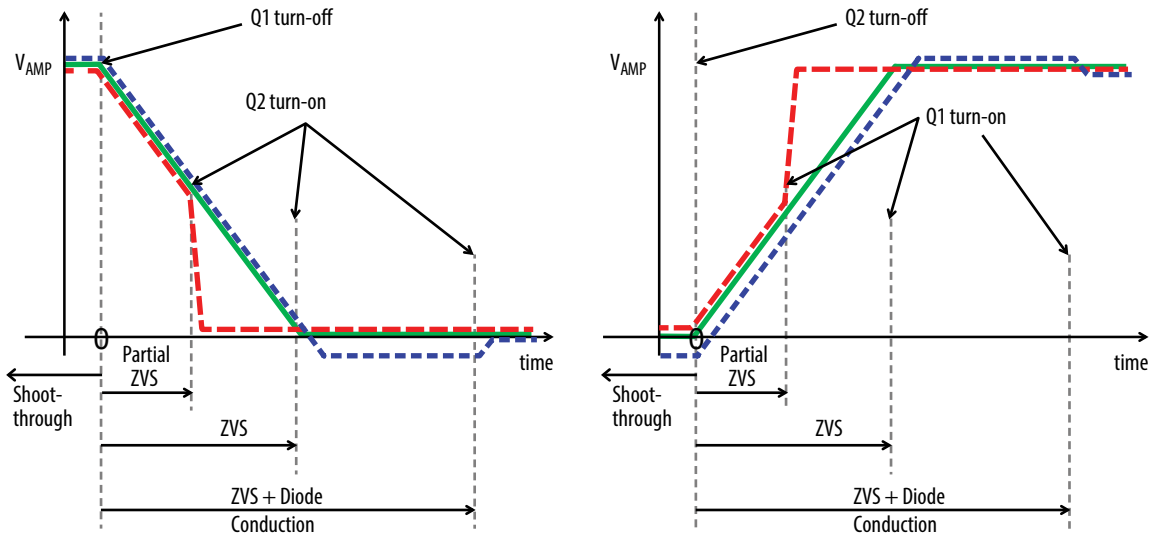

Figure 4: ZVS timing diagrams
Setting the correct time to establish ZVS transitions is critical to achieving high efficiency with the EPC9065 amplifier. This can be done by selecting the values for R71, R72, R73, and R74 respectively. This procedure is best performed using a potentiometer installed at the appropriate locations (P71, P72, P73, and P74) that is used to determine the fixed resistor values. The timing MUST initially be set without a load connected to the amplifier. The timing diagrams are given in figure 4 and should be referenced when following this procedure. Only perform these steps if changes have been made to the board as it is shipped preset. The steps are:
4. Turn on the main supply voltage to 5 V to ensure that the switch node waveform looks similar to figure 4. If not, adjust the potentiometers. After verification, the main supply voltage can be set to the required predominant operating value (such as 24 V but NEVER exceed the absolute maximum voltage of 80 V).
5. While observing the oscilloscope, adjust the applicable potentiometers to achieve the green waveform of figure 4.